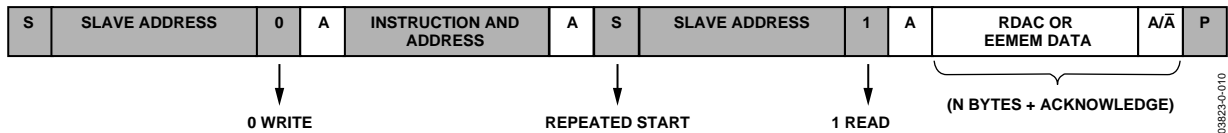
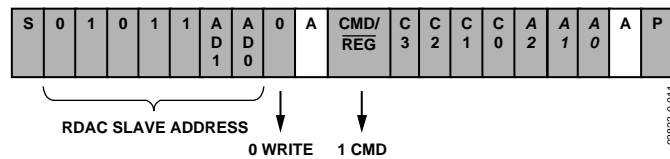
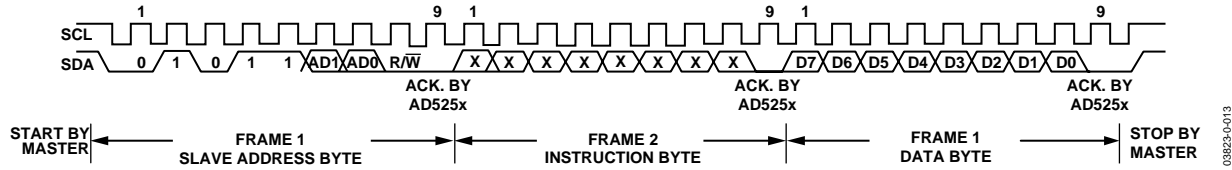
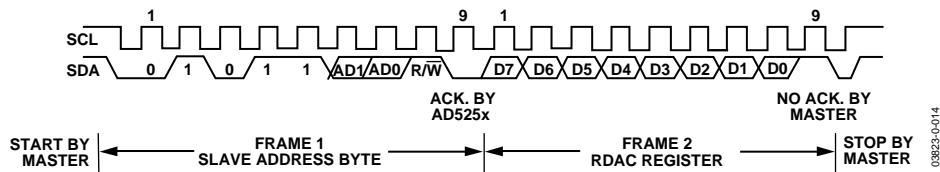

Figure 30. RDAC or EEMEM Random Read
Figure 31. RDAC Quick Command Write (Dummy Write)
Figure 33. General I²C Write Pattern
Figure 34. General I²C Read Pattern
Figure 30 illustrates a random RDAC or EEMEM read operation. This operation allows users to specify which RDAC or EEMEM register is read by issuing a dummy write command to change the RDAC address pointer and then proceeding with the RDAC read operation at the new address location.
The AD5251/AD5252 feature 12 quick commands that facilitate easy manipulation of RDAC wiper settings and provide RDAC-to-EEMEM storing and restoring functions. The command format is shown in Figure 31, and the command descriptions are shown in Table 9.
The first byte of the AD5251/AD5252 is a slave address byte (see Figure 33 and Figure 34). It has a 7-bit slave address and an R/W bit. The 5 MSB of the slave address is 01011, and the next 2 LSB is determined by the states of the AD1 and AD0 pins.
AD5251/AD5252 can be controlled via an I²C-compatible serial bus and are connected to this bus as slave devices. The 2-wire I²C serial bus protocol (see Figure 33 and Figure 34) follows:
1. The master initiates a data transfer by establishing a start condition, such that SDA goes from high to low while SCL is high (see Figure 33). The following byte is the slave address byte, which consists of the 5 MSB of a slave address defined as 01011. The next two bits are AD1 and AD0, I²C device address bits. Depending on the states of their AD1 and AD0 bits, four AD5251/AD5252 devices can be addressed on the same bus. The last LSB, the R/W bit, determines whether data is read from or written to the slave device.
the addresses of the EEMEM and RDAC registers (see Figure 27 and Figure 28). When MSB = 1 or when the device is in CMD mode, the four bits following the MSB are C3 to C1, which correspond to 12 predefined EEMEM controls and quick commands; there are also four factory-reserved commands. The 3 LSB—A2, A1, and A0—are addresses, but only 001 and 011 are used for RDAC1 and RDAC3, respectively (see Figure 31). After acknowledging the instruction byte, the last byte in the write mode is the data byte. Data is transmitted over the serial bus in sequences of nine clock pulses (eight data bits followed by an acknowledge bit). The transitions on the SDA line must occur during the low period of SCL and remain stable during the high period of SCL (see Figure 33).
3. In current read mode, the RDAC0 data byte immediately follows the acknowledgment of the slave address byte. After an acknowledgement, RDAC1 follows, then RDAC2, and so on. (There is a slight difference in write mode, where the last eight data bits representing RDAC3 data are followed by a no acknowledge bit.) Similarly, the transitions on the SDA line must occur during the low period of SCL and remain stable during the high period of SCL (see Figure 34). Another reading method, random read method, is shown in Figure 30.
4. When all data bits have been read or written, a stop condition is established by the master. A stop condition is defined as a low-to-high transition on the SDA line that occurs while SCL is high. In write mode, the master pulls the SDA line high during the 10th clock pulse to establish a stop condition (see Figure 33). In read mode, the master issues a no acknowledge for the ninth clock pulse, that is, the SDA line remains high. The master brings the SDA line low before the 10th clock pulse and then brings the SDA line high to establish a stop condition (see Figure 34).